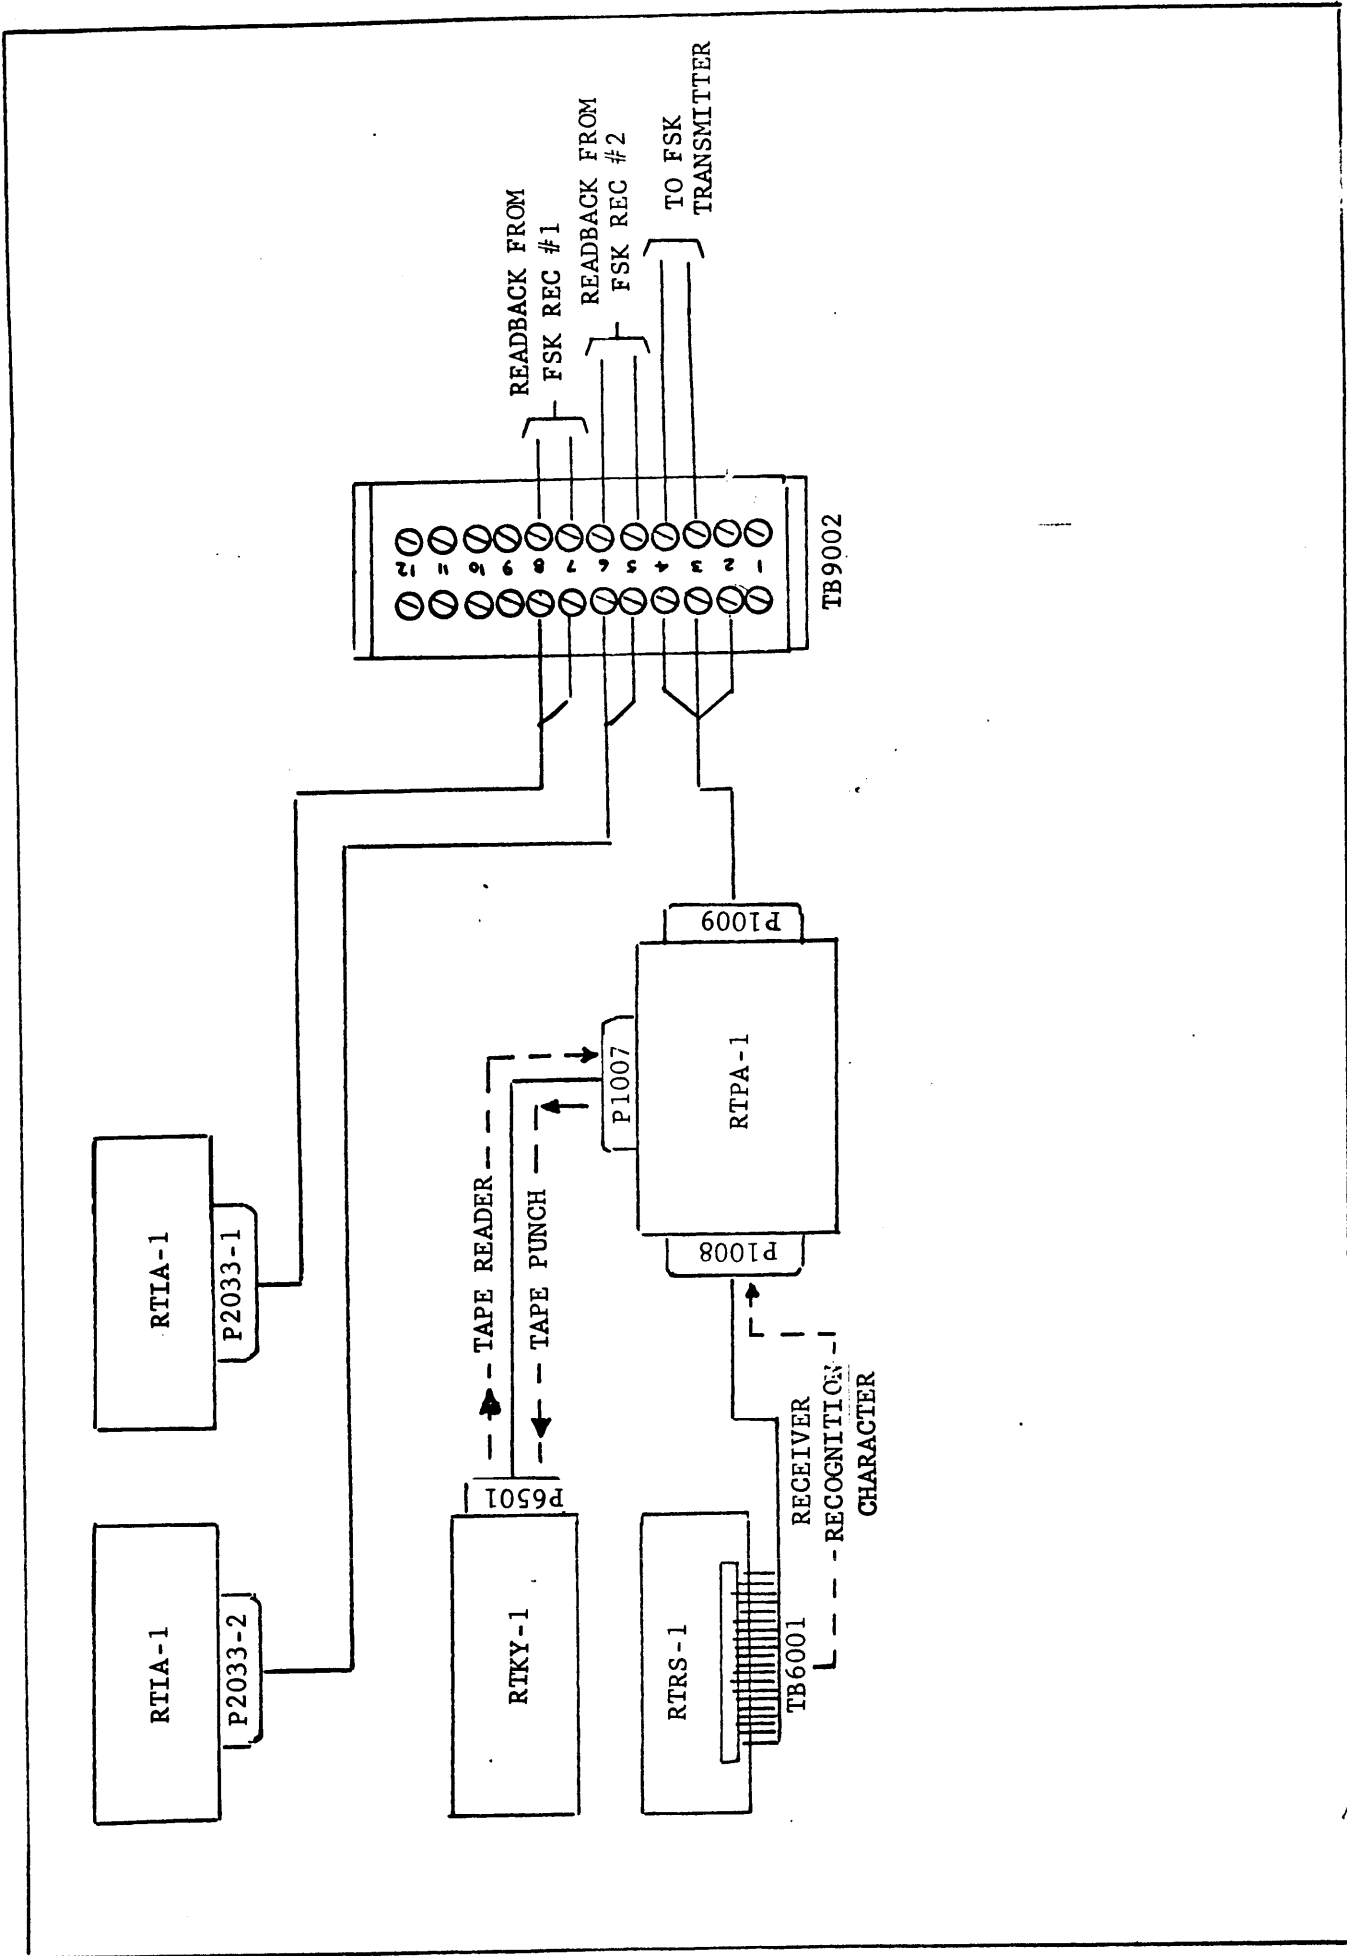

Figure 4-1. Simplified Wiring/Block Diagram
See figure 4-1 for a simplified wiring/block diagram of the ARCA-1 system.
- c. Simplified wiring/block diagram, figure 4-1.